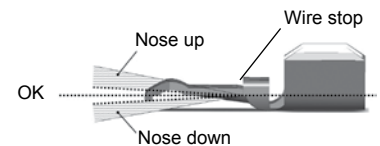

Figure 3
- Remove and inspect the crimp. There should not be any noticeable distortion in the angle of the contact blade (See Figure 3).
NOTE: Distortion of the contacts can occur if the locator is not adjusted properly so that it is allowed to move. There should not be any noticeable distortion in the angle of the contact blade after crimping (See Figure 3).